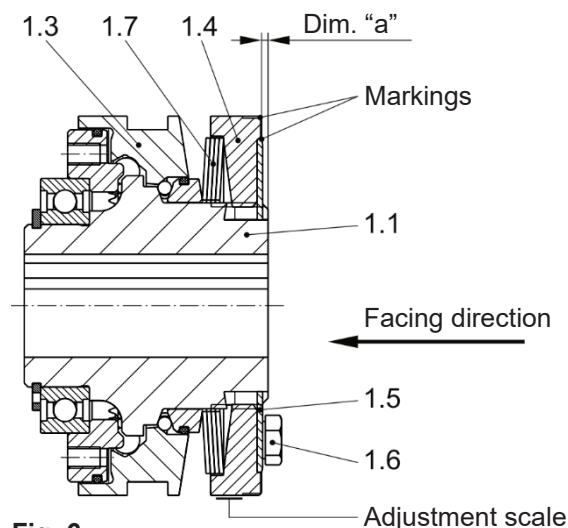
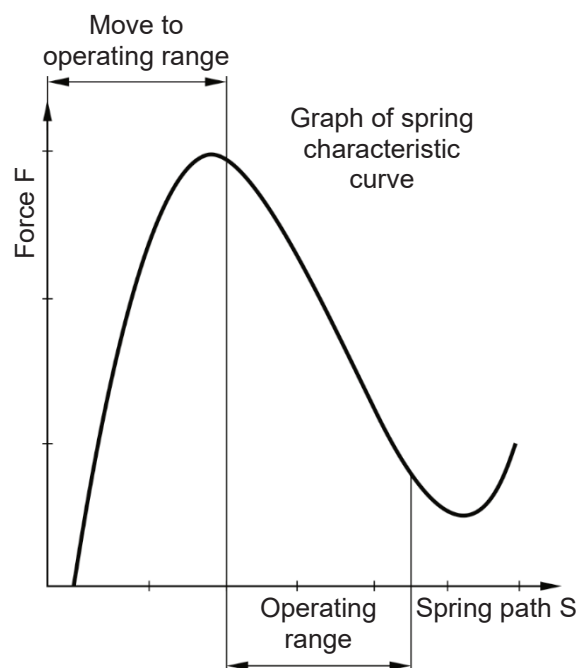

Fig. 6
Fig. 7
Torque adjustment is carried out by turning the adjusting nut (1.4). The installed cup springs (1.7) are operated in the negative range of the characteristic curve (see Fig. 7); this means that a stronger pre-tensioning of the cup spring results in a decrease of the spring force.
It is possible to check the **"Spring operation in the operating range"** (Fig. 7) using the dimension "a" (distance from the adjusting nut (1.4) facing side to the hub (1.1) facing side, as shown in Fig. 6).
c) Turn the adjusting nut (1.4) using the adjustment scale on the outer diameter of the adjusting nut (Item 1.4 / Fig. 6) clockwise or anti-clockwise using a hook wrench until the required torque is reached. The required torque results from the marking overlap on the locking ring (1.5) as well as on the adjusting nut (1.4) and the percent value of the adjustment scale on the adjusting nut (1.4), as shown in Fig. 6.
Adjusting the adjusting nut (1.4) or distorting the cup spring (1.7) outside of the cup spring characteristic curve (see Fig. 7) stops the clutch functioning.